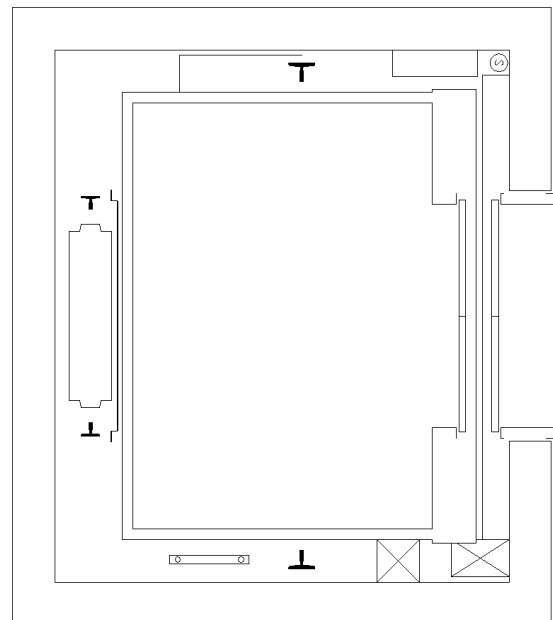

Figure 4-3.8 Elevator shaft drawing
16. Continue to use the **Join** command to cleanup all three sides of the elevator car as shown in **Figure 4-3.8**.
17. Select everything visible in **Figure 4-3.8** and change its *Layer* to **0** (i.e., zero).